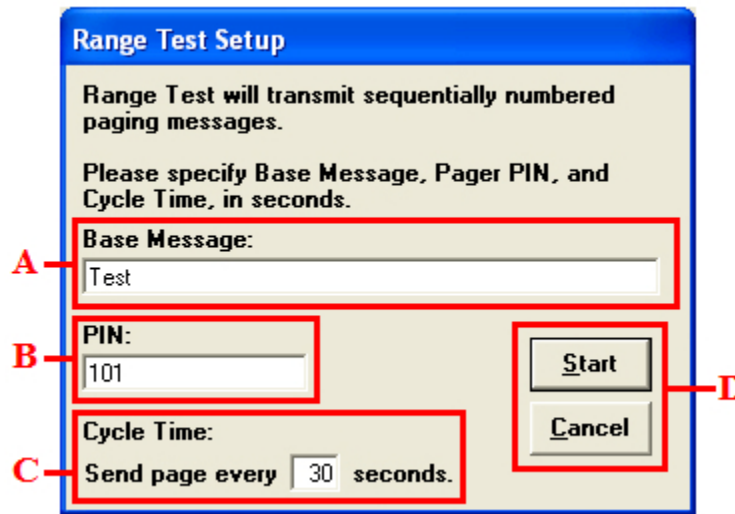

Fig. 23 (Range Test Setup)
In this screen you can use the Default “Test” message or type any message in the “Base Message” Field (A). See Fig. 23